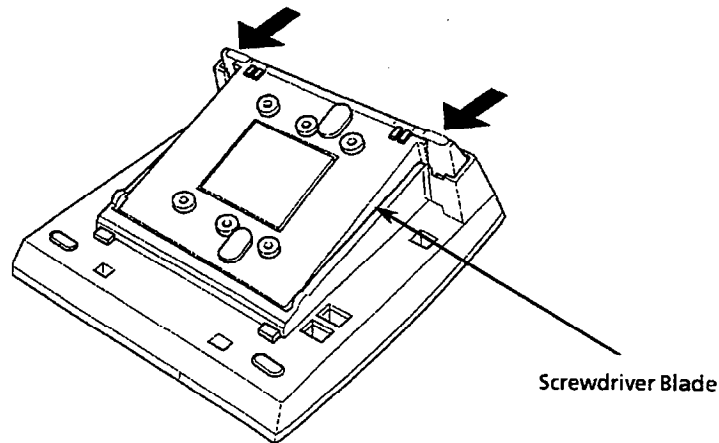

Figure 4-49 Unlatching the Cover on the Digital Multiline Terminal
3. Unlatch the cover by pressing the areas indicated by arrows in Figure 4-49 Unlatching the Cover on the Digital Multiline Terminal. Press a straight-blade screwdriver blade between the cover and the base to release the tabs. When both tabs are released, lift the cover.